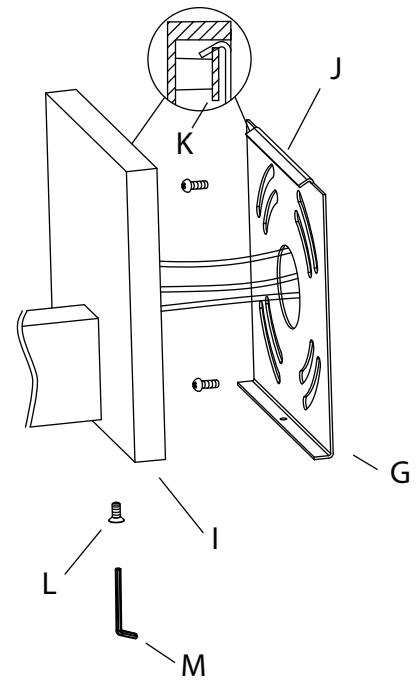

Fig. 2
5. Install the back plate (I) to the mounting plate (G) by hooking the bend (J) onto the bar (K) in the back plate. Secure with mounting screw (L) using included Allen wrench (M). (Fig. 2)
6. **For Wet Location Installation:** Place a small bead of silicone or water proof caulk (not included) around the back plate (I) where it comes into contact with the wall.